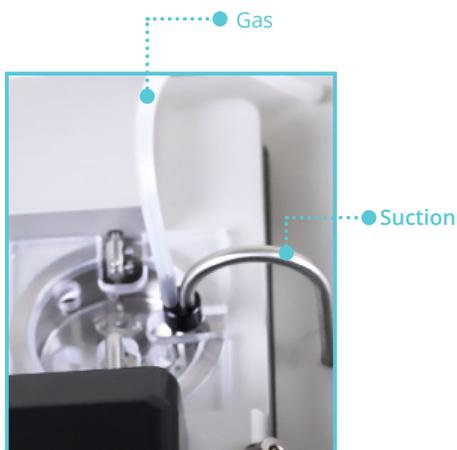

Figure 2.2 Suction connection
3. **Oxygen Supply:** Connect the gas supply (95% O₂, 5% CO₂ or 21% O₂, 5% CO₂, balance N₂) with tubing running from the gas supply to the gas inlet on the back of the Interface. Oxygen is supplied to the chambers by tubing attached to the stainless steel vacuum pipe. The oxygen and vacuum tubing need to be inserted into the chamber in order to aerate the heated buffer. Needle valves on the back of the interface can be adjusted to regulate the amount of bubbling that occurs. Turning the regulator clockwise increases the bubbling while turning it counter-clockwise decreases the bubbling. Each regulator has a lock device attached that can be used when the desired bubbling is achieved. See Figure 2.2 on next page.
4. **Vacuum Connection:** The system has a built-in manifold with separate valves that allows each chamber to be drained individually. After connecting the vacuum source at the back of the Interface, the vacuum pipes need to be inserted into the chambers in order for this feature to work properly. The pipes are inserted into the chamber by gently pulling up on the curved part of the pipe, turning it 90° counter-clockwise and gently lowering it into the chamber. A chamber can then be emptied by pressing the corresponding numbered button. Pressing the “all” button will empty all the chambers at the same time, see Figure 2.2.